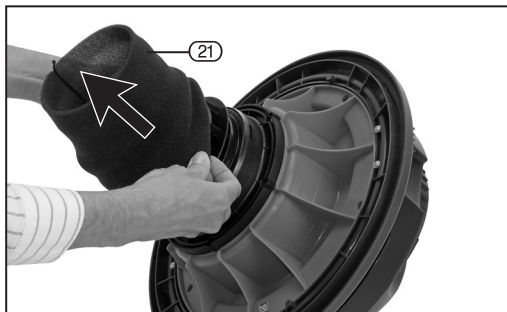

FIG. 5
7.1 CHANGING SETUP FROM WET TO DRY VACUUMING – FIG. 5